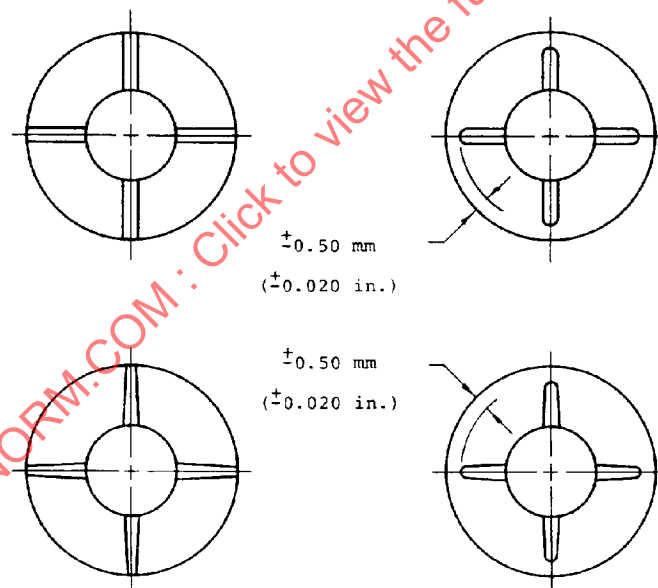

FIGURE 2—GROOVE PATTERNS
3.13 Groove Patterns—Grooves can be made either stopped off or run through as shown. If stopped off, the tolerances shown for location should be used for most economical manufacture. See Figure 2.